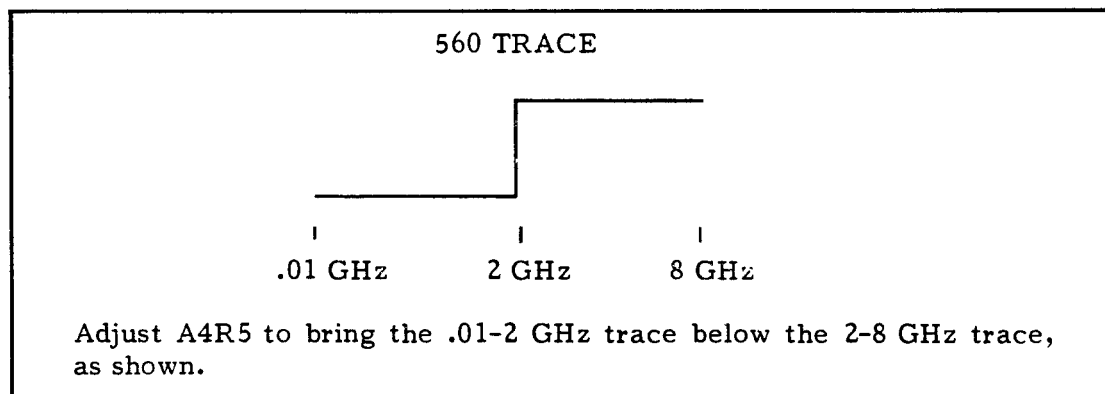

Figure 5-41A. Potentiometer A4R5 Adjustment
If unable to obtain equal traces with A4R70 (above), adjust the A4U4 offset potentiometer (Figure 5-41A); then readjust A4R70 as described above.
- B. After page 5-36, insert the following figure (Figure 5-41A).